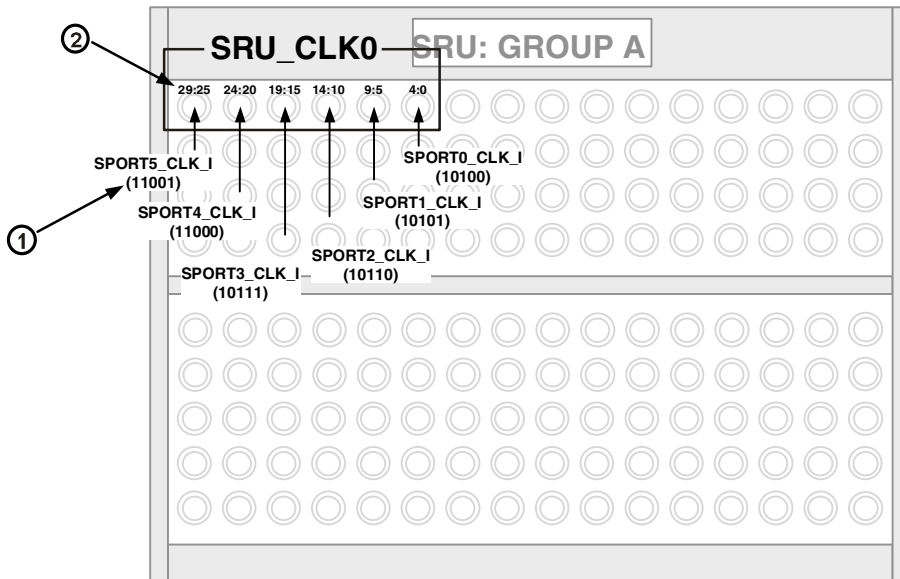

Figure 12-11. Patching to the Group A Register SRU\_CLK0
As described previously, the SRU is similar to a set of patch bays. Each bay routes a distinct set of outputs to compatible inputs. These connections are implemented as a set of memory-mapped registers with a bit field for each input. The outputs are implemented as a set of bit encodings. Conceptually, a patch cord is used to connect an output to an input. In the SRU, a bit pattern that is associated with a signal output (shown as item 1 in Figure 12-11) is written to a bit field corresponding to a signal input (shown as item 2 in Figure 12-11).
The memory-mapped SRU registers are arranged by groups, referred to as Group A through Group F and described in “Signal Routing Unit Registers” on page A-113. Each group has unique encodings for its associated output signals and a set of Configuration registers. For example, Group A is used to route clock signals. Four memory-mapped registers, `SRU_CLK[3:0]`, contain 5-bit wide fields corresponding to the clock inputs of various peripherals. The values written to these bit fields specify a signal source that is an output from another peripheral. All of the possible encodings represent sources that are clock signals (or at least could be clock signals in some systems). Figure 12-11 diagrams the input signals that are controlled by the Group A register, `SRU_CLK0`. All bit fields in the SRU Configuration registers correspond to inputs. The value written to the bit field specifies the signal source. This value is also an output from some other component within the SRU.
Note that the lower portion of the patch bay in Figure 12-11 is shown with a large number of ports to reinforce the point that one output can be connected to many inputs. The same encoding can be written to any number of bit fields in the same group. It is not possible to run out of patch points for an output signal.